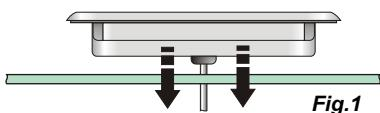

Fig.1
Warning: Gas heaters MUST be installed in the plumbing AFTER the control system as shown below. Fig.1
**Step 1** - Clean area and insert spaside control. (Fig.1)